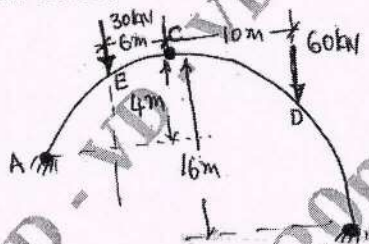

Fig. Q8 (b)
- b. A three hinged parabolic arch of span 50 m has its supports at depth 4m and 16 m below crown shown in Fig. Q8 (b). Determine reactions at the supports and bending moments under the loads. Also draw BMD. (12 Marks)